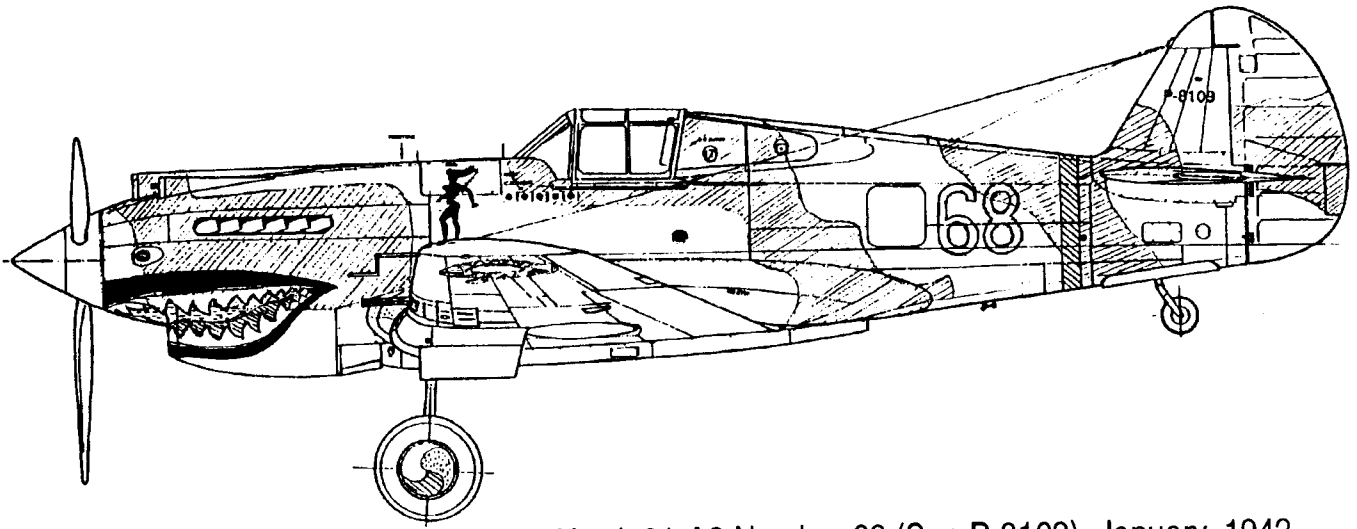

Figure 4
**Figure 4. Hawk 81-A2 number C8 (serial P-8109), January, 1942:** This plane was assigned to Charles Older, a flight leader in the Third Squadron. All numbers and lettering were the usual white. Red squadron band and red/white angel insignia. The angel on the starboard side was similar in pose, facing rear of aircraft. Five kill markings were carried at this time. Shark mouth had unusually thick black lips, white teeth and red tongue. The inside of the mouth area was filled in with a light gray that closely matched the underside color of the aircraft, and the inside edge of the lips and the top of the tongue were outlined with pink. White eye with red pupil. Third squadron red/blue/white pinwheels on wheel covers. A Disney tiger decal was applied to this machine, and the five "meatballs" were later painted out and replaced by ten smaller ones. With those changes this machine was the subject of many well-known photographs taken in May, 1942. But by that time the shark head design had weathered and chipped so much that